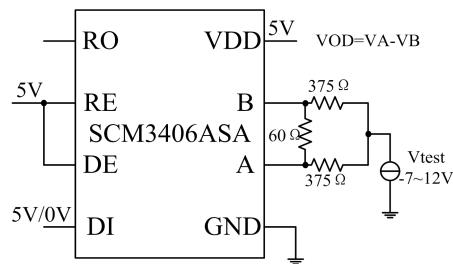

Figure 17 Driver Test Circuit,  $V_{OD}$  With Common-Mode Loading
| Differential Driver Output (3)                     | R L =60Ω, V CM = -7 ~ 12V, V VCC = 3.0~3.6V, Figure17 | 1.5   |      | V VCC |      |